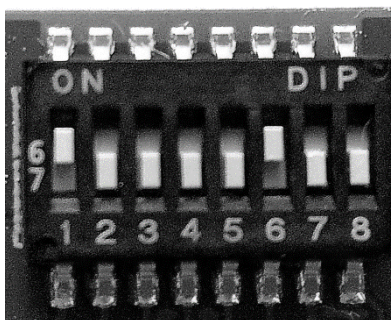

Figure 3: SW1 Jumpers for gate voltage setup
1. Set the switch 8 on the SW1 (see figure 3) in the position "ON"
6. Set the switch 8 on the SW1 (see figure 3) in the position "OFF"